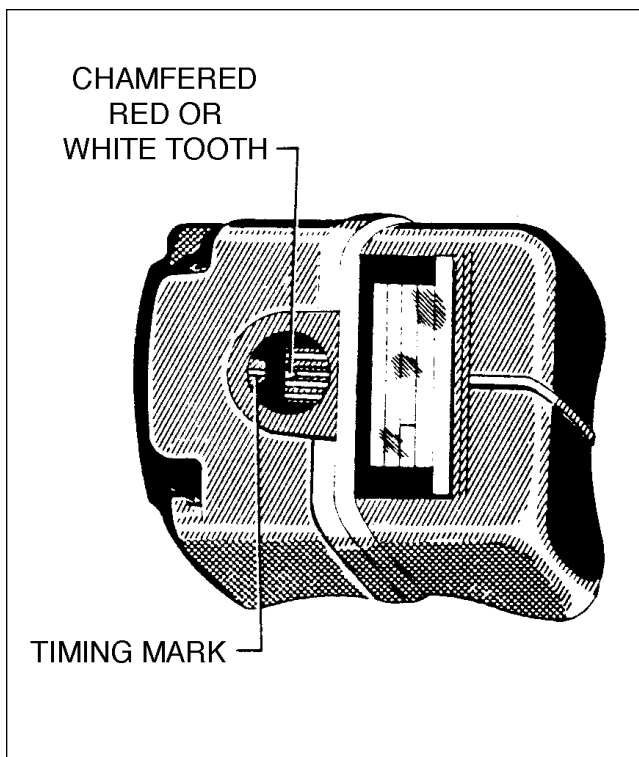
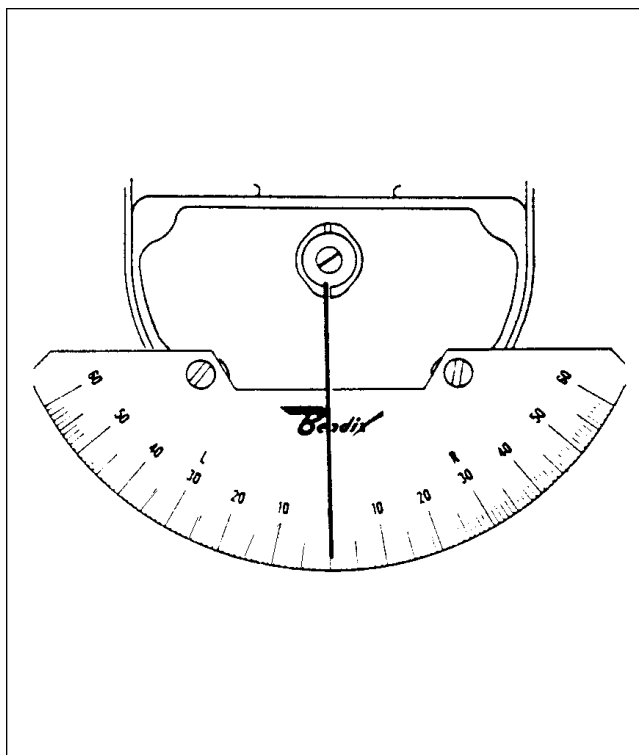

Figure 8-17. Magneto Timing Marks
Figure 8-19. Timing Kit Installed
1. The distributor drive gear will have one chamfered tooth marked white *or* red. To determine "E" gap, locate neutral position of the magneto drive by rotating the drive coupling in a left hand direction until the red or white chamfered tooth on the distributor drive gear appears through the timing inspection hole. (Refer to Figure 8-17.) At the same time, the drive should feel to have fallen into a neutral position.
2. With timing plate and pointer attached (Refer to Figure 8-19.) and pointer set at zero, rotate coupling from neutral in a left hand direction 10 degrees. Appearing through timing hole, check that the white or red tooth aligns with the white line of the distributor block. (Refer to Figure 8-17) alignment may not vary over ± 4 degrees.